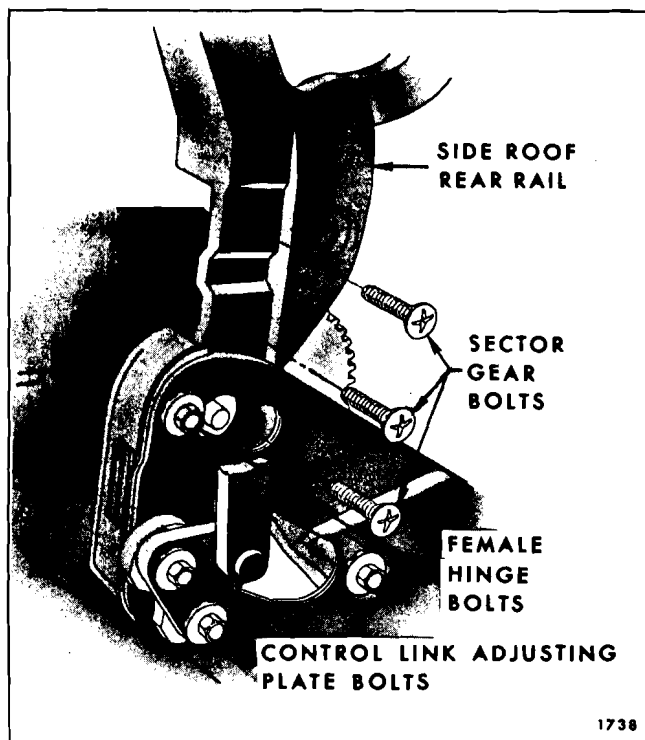

Fig. 13-72—Actuator and Top Control Link Attachment - "Z" Styles
5. Remove bolts securing side roof rear rail to sector gear (Fig. 13-72).
6. Mark location of control link adjusting plate on folding top compartment brace (Fig. 13-72).
8. Mark location of female hinge attaching bolt washers on folding top compartment brace (Fig. 13-72).
1. Install female hinge attaching bolts to new actuator assembly, using washer scribe marks as guide (Fig. 13-72).
2. Install control link adjusting plate attaching bolts, using scribe mark of control link as guide (Fig. 13-72).
3. Manually move sector gear until all attaching bolts can be easily installed; then tighten sector gear attaching bolts (Fig. 13-72).